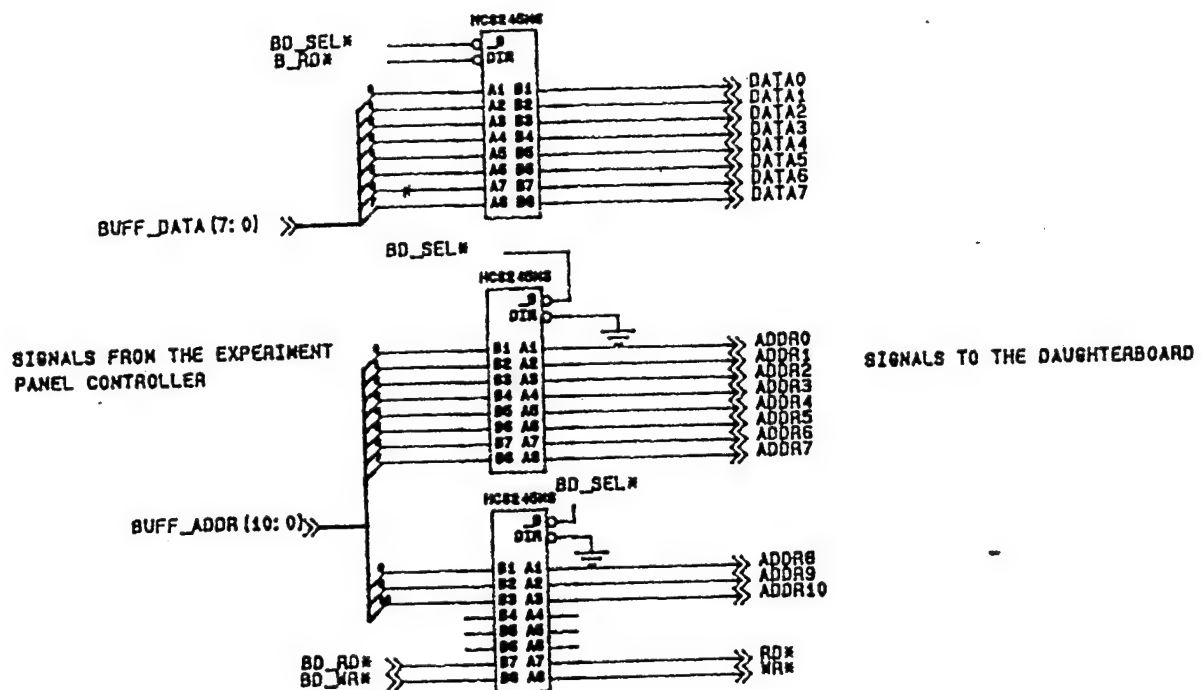

Figure 5 - Interface Circuitry
3.2.5.1 Single Slot Digital Interface and Schematic. The digital interface between the motherboard and a single slot daughterboard will use Harris HCS245 transceivers. This interface circuitry resides on the motherboard. A schematic is shown in Figure 5. The signals on the left side of the schematic come from the controller. The signals on the right side of the schematic are connected to the 96 pin DIN connector for the daughterboard. Note that the signals on the right side of the schematic are tri-stated unless that daughterboard is selected.
3.2.5.2 Double Slot Digital Interface. The digital interface between the motherboard and a double slot daughterboards will consist of two independent single slot digital interface circuits shown in Figure 5.